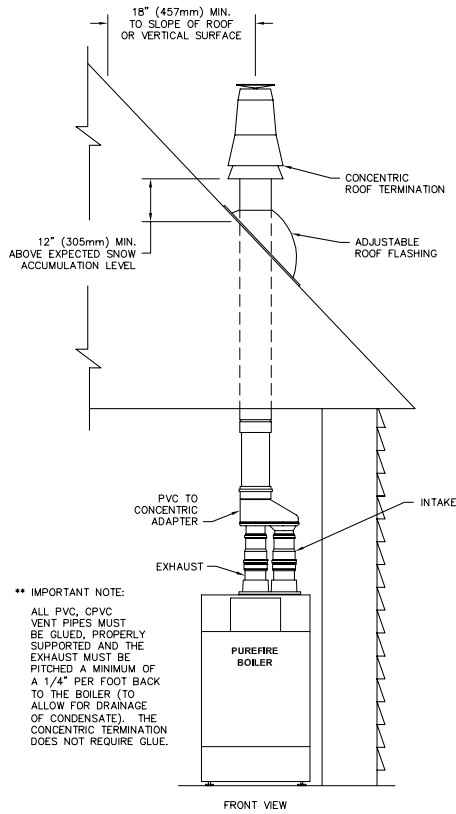

Figure 3.9: Concentric Vertical Vent Installation
- d. Figure 3.9 shows an approved vertical vent configuration using the optional concentric vent termination kit.